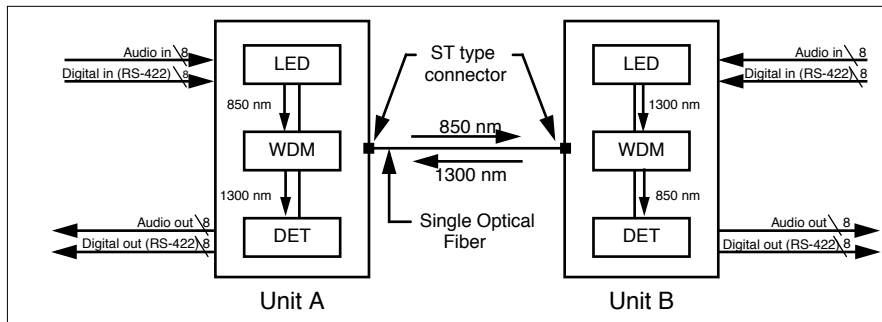

Figure 2. Block Diagram of a One Fiber System
- One fiber connection with optically combined bidirectional signals at 850/1300 nm or 1300/1550 nm as shown in Figure 2.